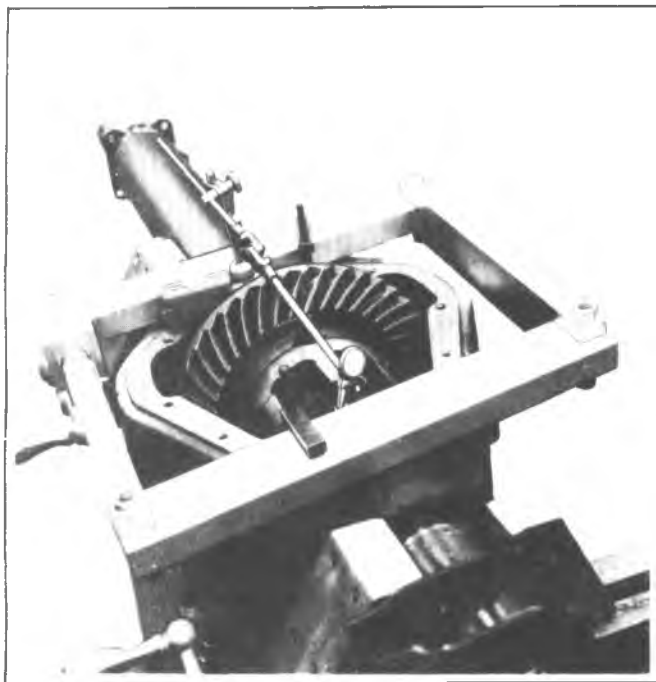

Fig. 15F--Tool J-24385 Mounted on Carrier
7. Using spreader Tool J-24385 and dial indicator as shown in figure 15F, spread carrier a maximum of .020".
1. Spread differential carrier, using spreader as shown in figure 15F.